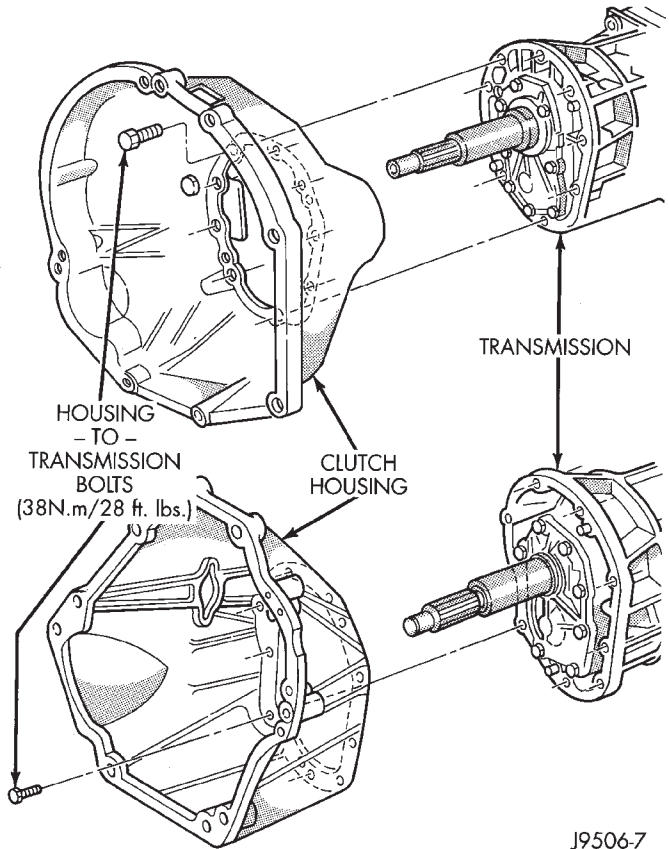

Fig. 9 Clutch Housing
(24) Remove clutch housing brace rod.
(25) Remove clutch housing-to-engine bolts.
(26) Pull transmission jack rearward until input shaft clears clutch. Then slide transmission out from under vehicle.
(27) Remove clutch release bearing, release fork, and retainer clip.
(28) Remove clutch housing from transmission (Fig. 9).
(1) Install clutch housing on transmission. Tighten housing bolts to 37 N·m (27 ft. lbs.) torque.
(2) Lubricate contact surfaces of release fork pivot ball stud and release fork with high temp grease.
(3) Install release bearing, fork, and retainer clip.
(4) Position and secure transmission on transmission jack.
(5) Lightly lubricate pilot bearing and transmission input shaft splines with Mopar® high temp grease.
(6) Raise transmission and align transmission input shaft and clutch disc splines. Then slide transmission into place.
(7) Install and tighten clutch housing-to-engine bolts to 38 N·m (28 ft. lbs.) torque (Fig. 9). **Be sure the housing is properly seated on engine block before tightening bolts.**